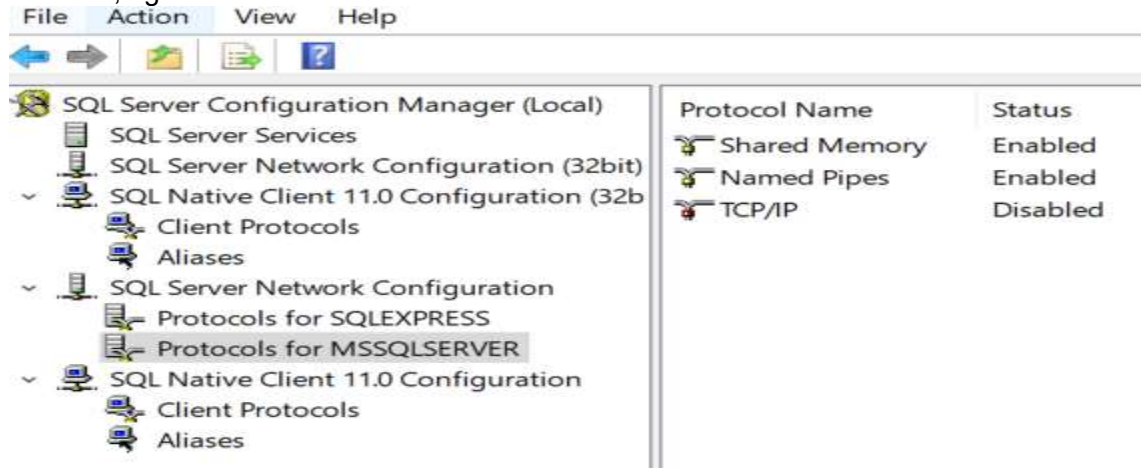

Figure 4 - Enabling Protocols
4. While in the Configuration Manager, you also need to turn on certain protocols which will enable your workstations to communicate with the SQL Server. In the left panel, open each subsection and note if there is a subsection for Protocols. At each Protocols section, you must enable Shared Memory, TCP/IP and Named Pipes -see figure 4 below. To enable a protocol that is disabled, right click on it and left click on Enable.